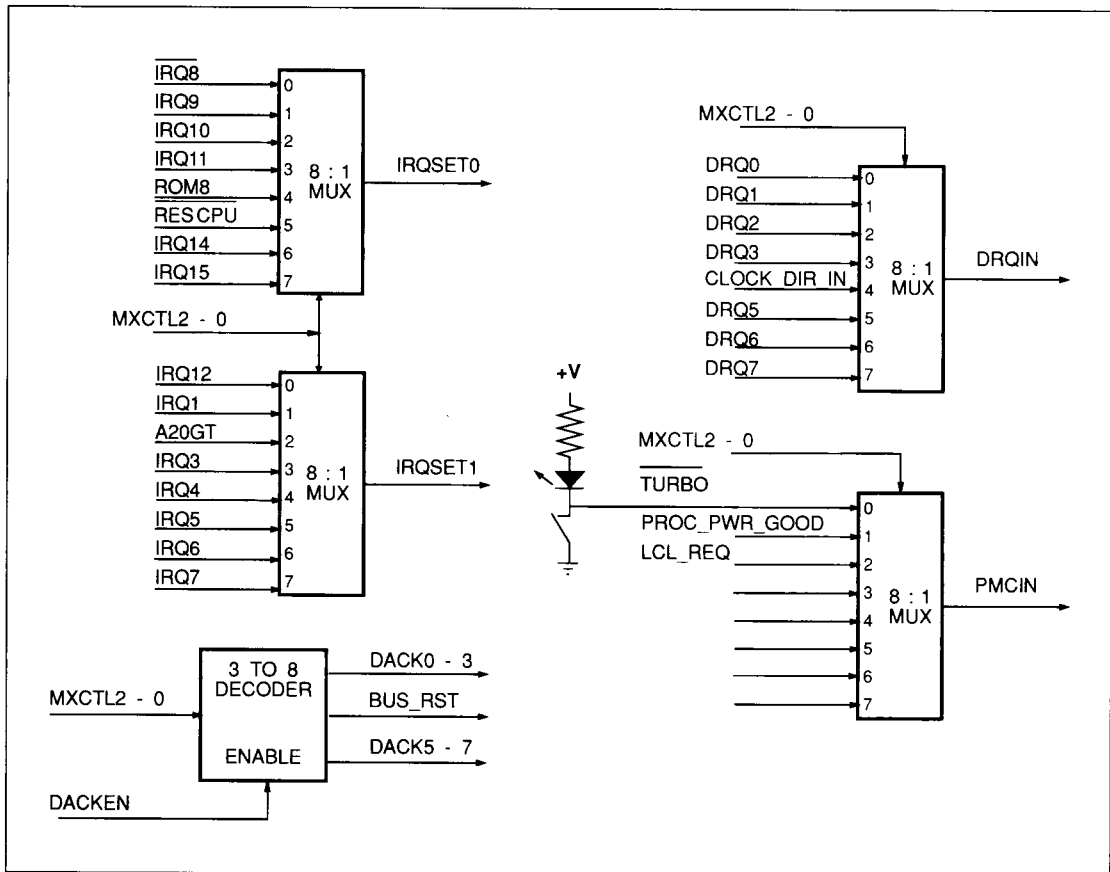

FIGURE 5-1. MXCTL(2:0) MULTIPLEXING
* Based upon the value of CLOCK_DIR_IN at power up (refer to Table 5-1, Figure 5-1 and section 5.1.2).
To reduce the number of pins required, the System Controller generates and outputs the MXCTL(2:0) and DACKEN signals used by external logic to multiplex the DACKs, DRQs and IRQs down to single inputs. See Figure 5-1.
Immediately following a System Reset (\overline{RSTIN}), DRQIN input 100 is sampled. If low, the processor clock (CPUCLK) pin is an output. If high, the CPUCLK starts as an output but is switched to an input shortly after \overline{RSTIN} is de-asserted. See Table 5-1 and Figure 5-1. This controls the default value of CLK_SPD in the CPU Clock (CPUCLK) Control Register at Port 1072H. See section 4.2.4.
The Interrupt Requests are multiplexed by the WD76C30. The multiplexing is performed as shown in Table 5-1 and Figure 5-1, and provides the System Controller with the IRQSET1 and IRQSET0 signals.
The power control signals are placed on the PMCIN input pin by way of an 8-to-1 multiplexer, controlled by the MXCTL(2:0) signals from the System Controller. In the WD7855/LV, the external 8:1 MUX is always used. See Figure 5-1. Bits 14 and 13 of Port 1872H (Section 5.3) control the power down of the processor and peripheral.
When a PMC interrupt occurs, PMC output 7 at Port 7072H is reset, enabling the power up sequence. A CPURES and BUS_RST (see Figure 5-1) are asserted until the PMCIN 01 PPG at Port 8872H input is high. The tristated outputs are restored and the inputs are no longer masked. Refer to Section 9.15 for more details regarding suspend and resume.